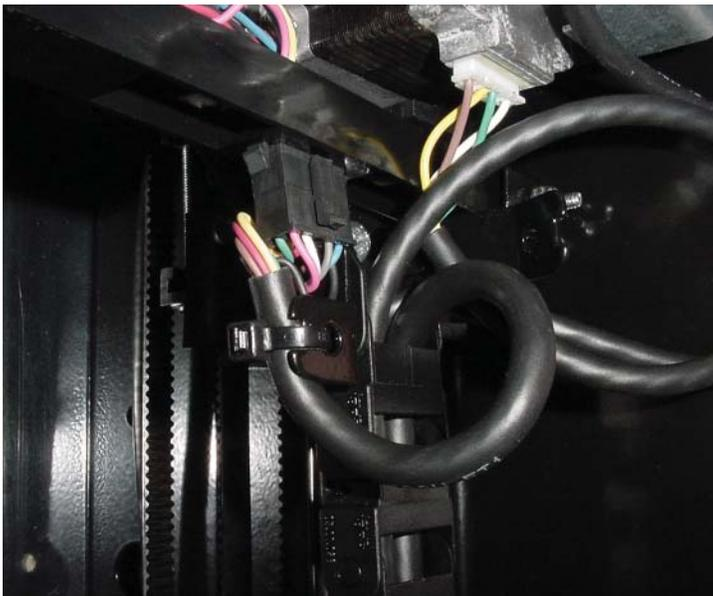

Figure 15.
43. Dress up the X-axis harnessing and tie it together using wire ties from the kit. (See Figure 15.)